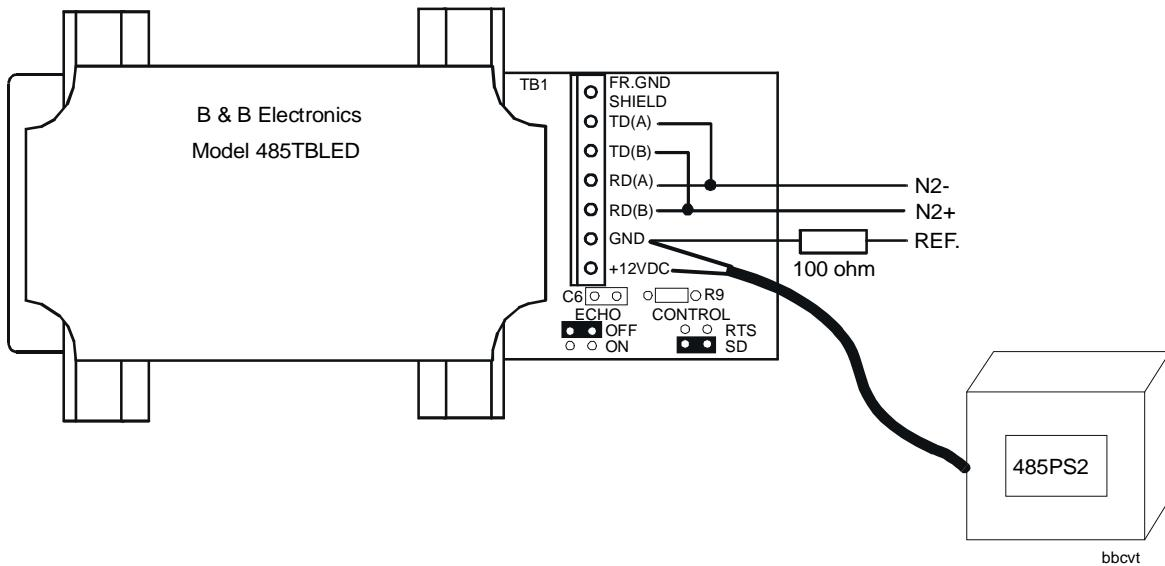

Figure 21: B & B Electronics Converter and Power Supply
The B & B converter uses the same cable as the MM-CVT101 to connect to the PC. The B & B converter has two jumpers (see Figure 21).
The B & B converter has separate connections for the transmitting and the receiving N2 lines (see Figure 21). These connections must be connected together to provide a 3-wire communication trunk.
1. Using Figure 21, insert one jumper in the CONTROL SD location and insert the other jumper in the ECHO OFF location. The SD position causes a timed internal RTS signal to be generated when the TD signal is active.